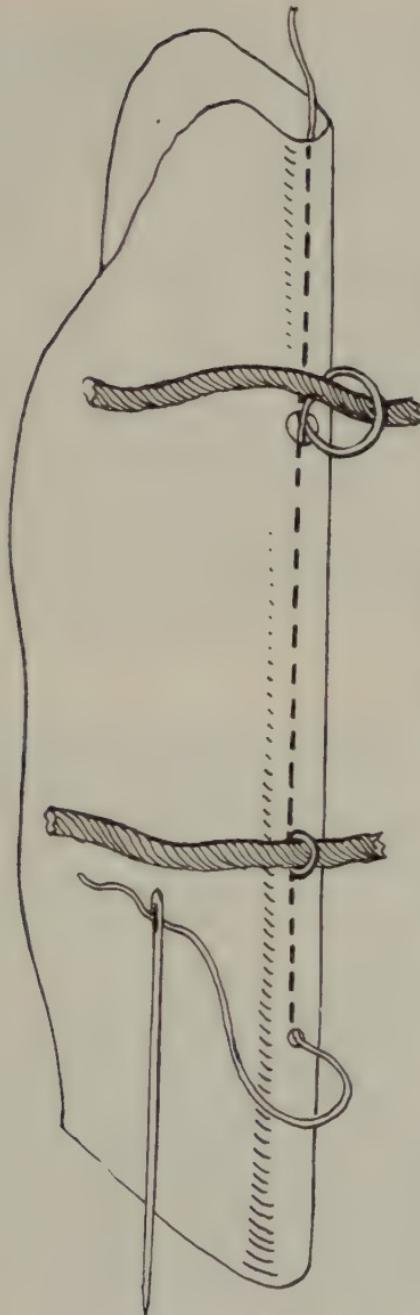

FIG. 177—METHOD OF SAWING WITHOUT SAWING-IN FOR BANDS
To the Teacher—There are many variations in hand sewing. If the student is able to follow instruction easily it may be well to instruct and allow a practice project or two in sewing alone, in a variety of styles. One surely should be attempted, that of marking off for bands and kettle-strokes as in this project, but *without* sawing-in for bands or kettle-strokes. To do this run cords on outside of sections, mark cord positions as well as for kettle-strokes and sew as in this project *with the exception* that thread led in at (A) comes out at *left side* of cord (B), passes around cord *outside* and in again at right side of cord and so along to (C), (D), (E), and (F). Kettle-strokes are made as in this project. (See Fig. 177.)